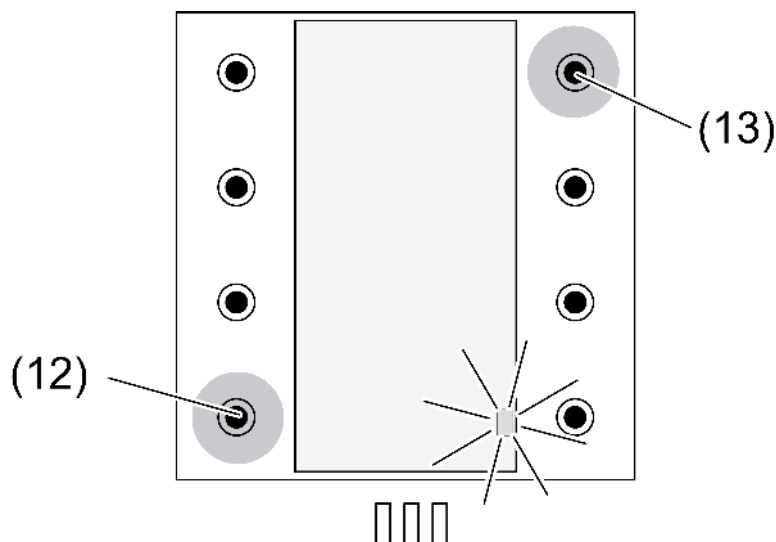

Figure 5: Activating programming mode for scene buttons
- Press the top right (13) and bottom left (12) buttons simultaneously for 4 seconds (figure 5).
- Briefly press the top right (13) and bottom left (12) buttons simultaneously (figure 5).